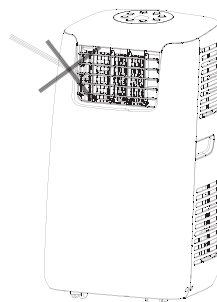

FIG. 2
- Do not place objects on the unit, and do not cover or block the air inlet / outlet (fig. 2).